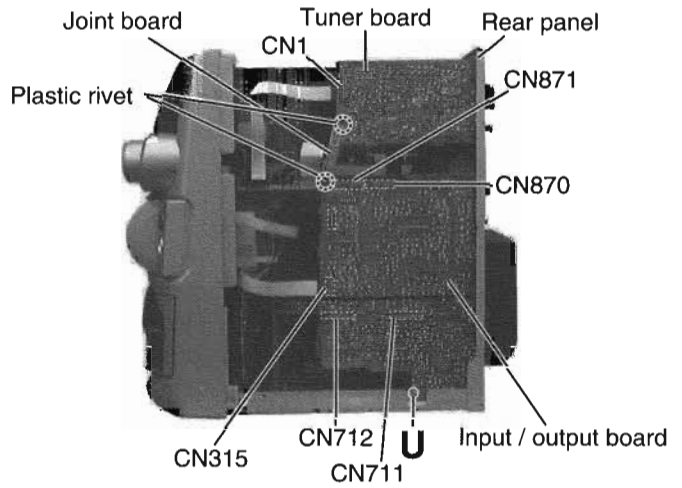

Fig.21
(See Fig.21 and 22)
Remove the tuner board in case of necessity (Refer to Fig.21).
1. Remove the input / output board (Refer to Fig.21 and 22).